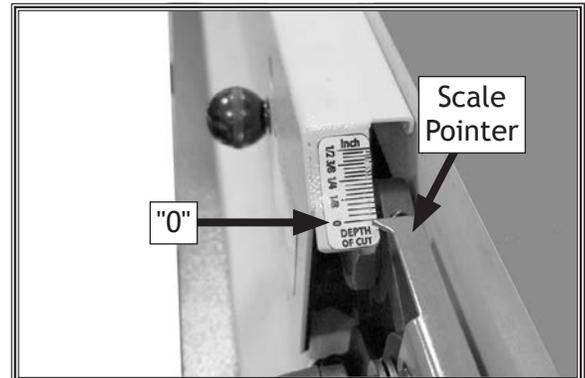

Figure 59. Depth-of-cut scale set to "0".
5. Loosen button head screws that secure scale pointer, adjust scale pointer to "0," then re-tighten screws (see **Figure 59**).